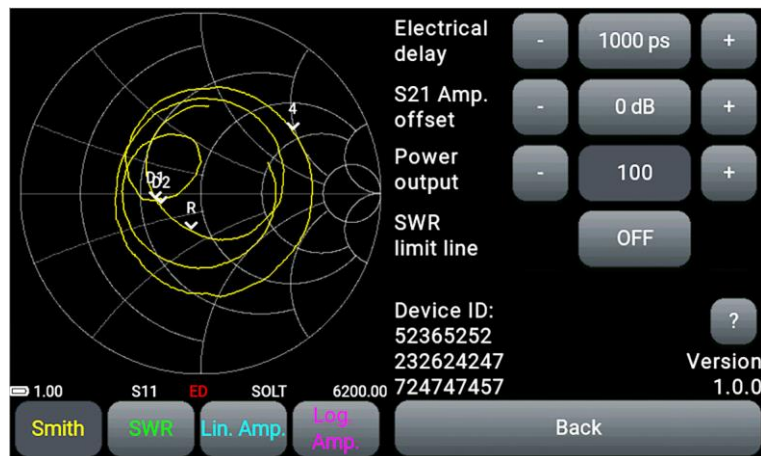

Figure 9.15 - Displaying the VSWR limit line is off
9.9.2. The SWR line display is switched off and on by pressing the button with the numerical value of the coefficient (Figure 9.15).